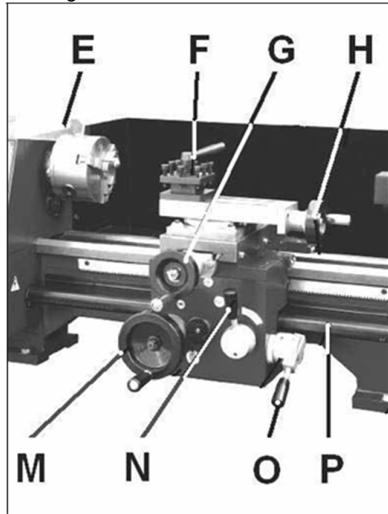

Fig 8
Apron travel (M, Fig 8), cross travel (G) and top slide travel (H) can be operated for longitudinal and cross feeding.
By moving the lever (O, Fig 8) upward, the automatic longitudinal feed is engaged.
Engage the halve nut (N, Fig 8). The halve nut must be engaged during the entire threading process.